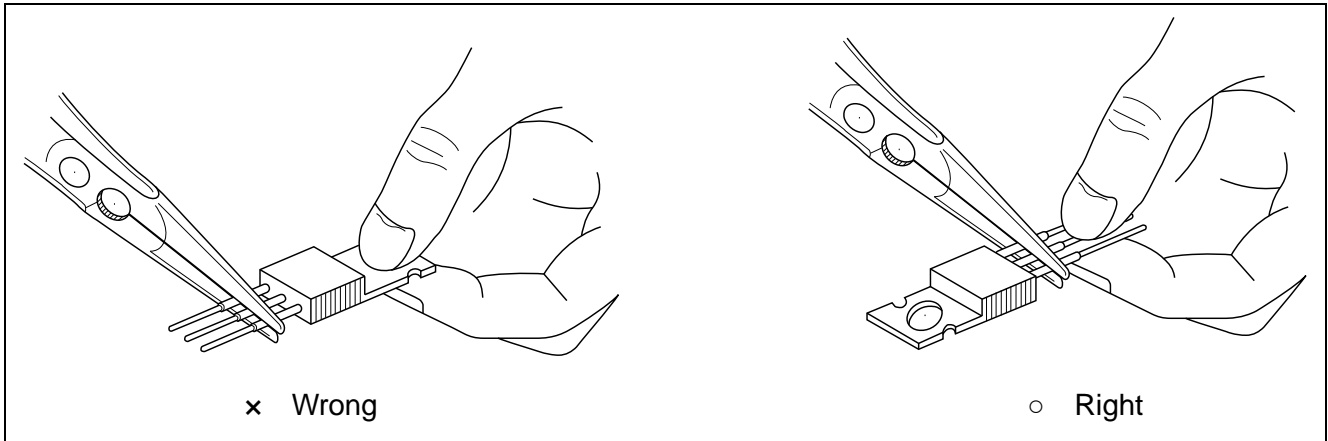
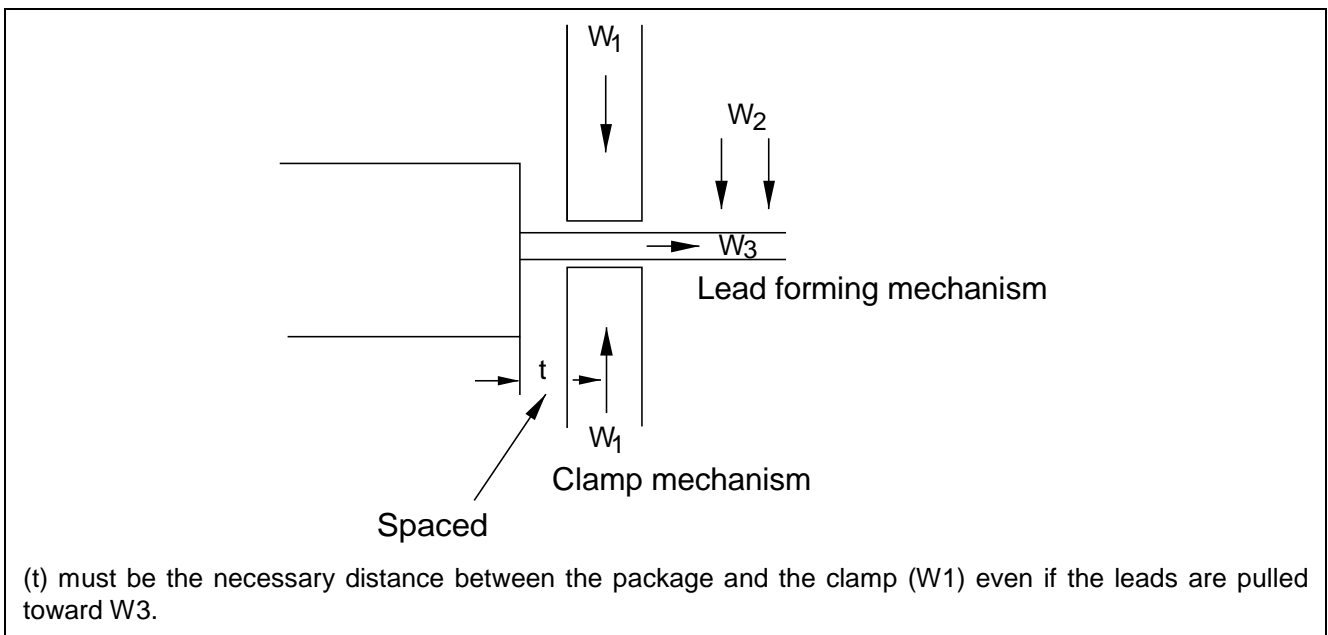

Figure 8. How to Bend Package Leads with Handling
Figure 9. How to Bend the Lead by Using a Mold
- When bending the lead, fix between the lead bending point and the package body so that relative stress is not applied between the package body and the lead. Then, do not bend the lead while holding the package body (see figure 8). And, when forming outer leads using a metal mold, use a mechanism that fixes the outer leads. And, the mechanism to secure the lead also please be careful to not put stress on the semiconductor device body (See figure 9).